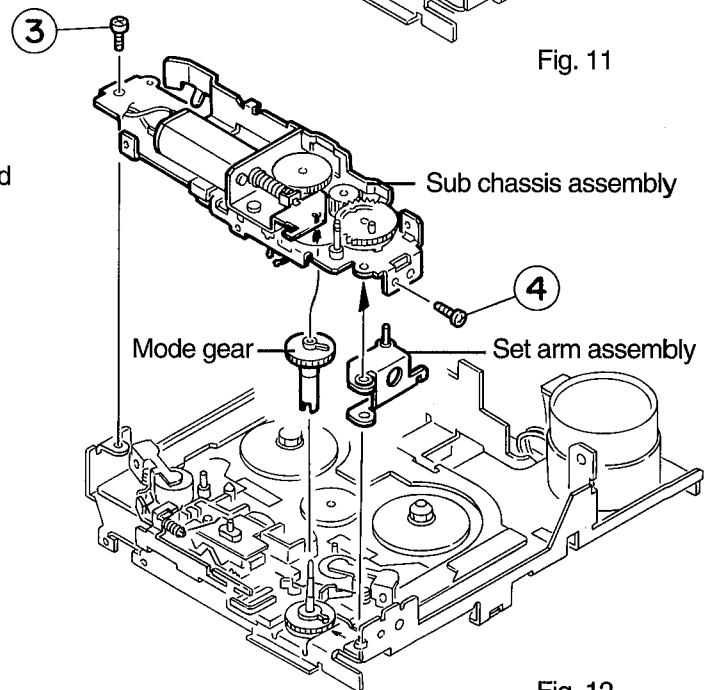

Fig. 12
### ■ Removing the Flywheel Assembly ( See Fig. 12 )
2. Install the sub chassis assembly and secure it with the two screws ③ and ④ as shown in.
- Note : The set arm assembly and the mode gear should be positioned as shown in Fig. 12.